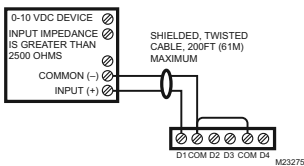

Fig. 10. Analogue Output Wiring Diagram.
Analogue Outputs (AO) are referenced by the terminals labeled *An* and 0 V (ground). Each AO can supply a maximum of 4 mA over the entire 0 to 10 Vdc range. The minimum input impedance of a device controlled by an AO must be greater than 2500 ohms. Typical wiring for an AO is shown in Fig. 10. For each AO, use a `VoltageOutputWritable` in the station database.